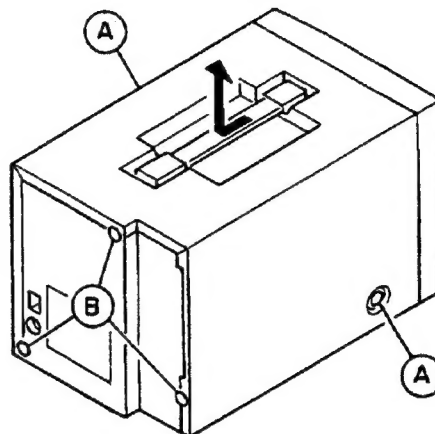

Fig. 1
- (1) Remove the 2 screws ① shown in Fig. 1.
- (2) Remove the 3 screws ②.
- (3) Slightly pull backward as shown by the arrow and remove the top cover.